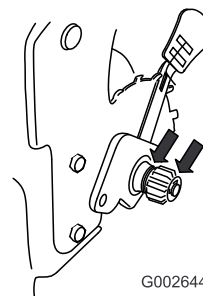

Figure 37
2. Apply a lubricating oil to the inner and outer sides of the gear as shown in Figure 37.